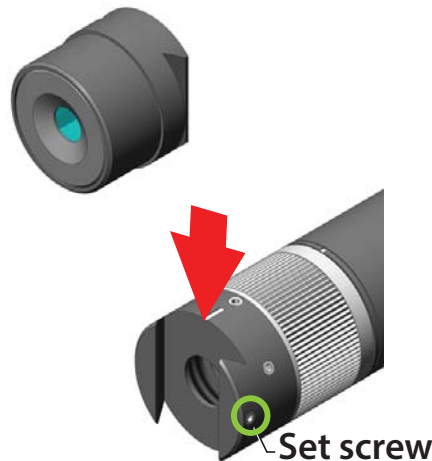

Figure 2-29. Change the Optical Head
1. Using the 0.035 hex wrench (provided), loosen the set screw shown in Figure 2-29.